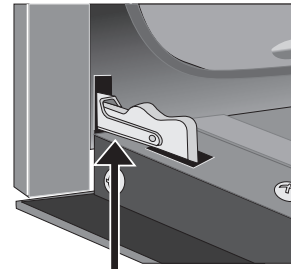
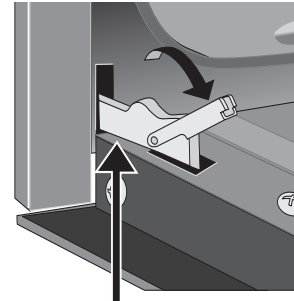

Figure 43: Door hinge locks
Figure 44: Unlocking door hinge
2. Pull up the lock located on each hinge support toward front of the oven until the lock stops. You may have to apply a little upward pressure on the lock to pull it up (Figure 43 and Figure 44).
4. Push the door hinge locks up toward and into the oven frame on both left and right oven door hinges to the locked position (Figures 44 and 45).